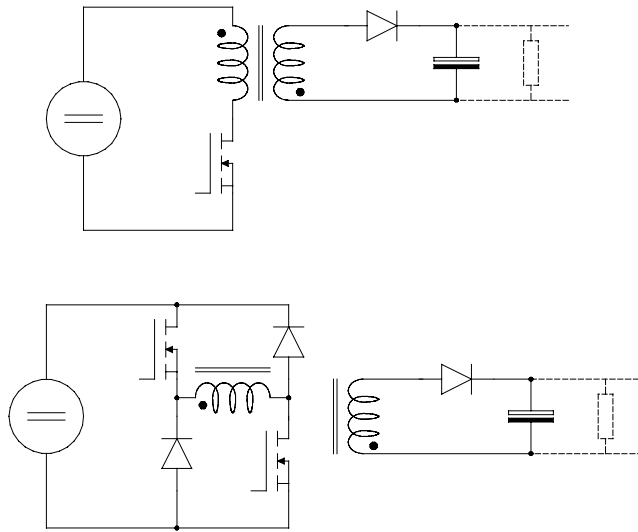

Figure 3 Isolated Flyback SMPS
5) Figure 3 shows two designs of isolated flyback switch-mode power supplies, SMPS. Discuss the issues relevant to choosing between the two designs.